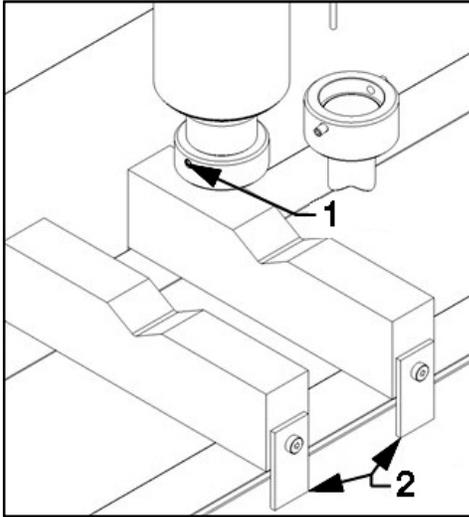

Fig. 7: Installing ram adapter
1. Loosen the two 3/8-16 set screws in Fig. 7 until the cap comes off. Set this cap aside for future use.